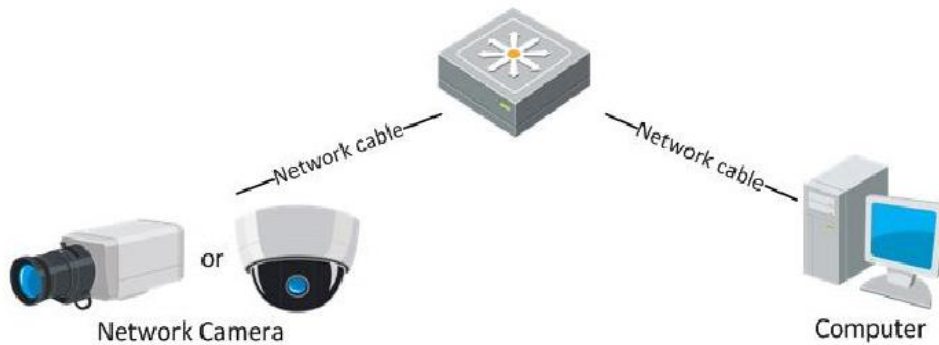

Figure 2-2 Connecting via a Switch or a Router
- Refer to the Figure 2-2 to connect the network camera over a LAN via a switch or a router. When using a router during initial connection, the IPC and PC should be on the same LAN segment (on the 'switch side' of the router).